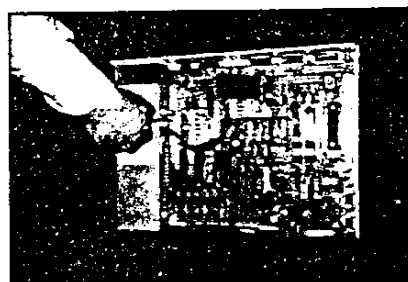

Fig. 2-12. PCB Screw Removal
2.6.2 Remove the 4 PCB screws at locations A1, A6, T1, T4. Note that the power supply screws are larger than the other two. See Fig. 2-12.